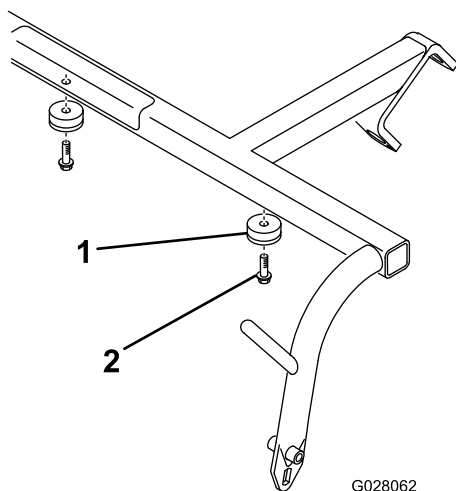

Figure 3
2. Mount the 2 recessed bumpers to the underside of each pull-arm cross tube with 2 washer-head self-tapping screws (Figure 3).
- A. Remove the screws, or nuts if equipped, securing the outside ends of each anti-scalp roller shaft to each end of the carrier frame (outside end of shafts only); refer to Figure 3.